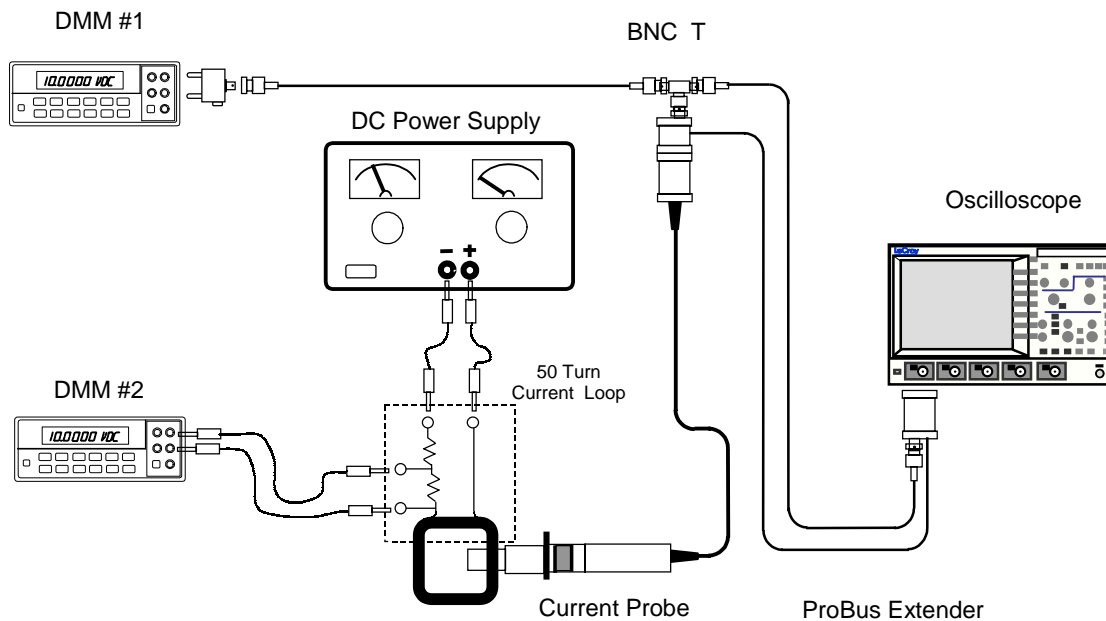

Figure 1. DC Accuracy Test Set Up
3. Using banana patch cords, connect the 'V Source' terminal of the 50 Turn Calibration Loop, AP015-CF01, to the positive output of the power supply. Connect the 'V Return' terminal to the power supply negative terminal. (Refer to Figure 1 on the following page.)
2. Connect the AP015 (without the compensation box cover) to the oscilloscope using the setup for the DC Accuracy check in the Performance Verification Procedure. (Refer to Figure 1 in the Performance Verification section).